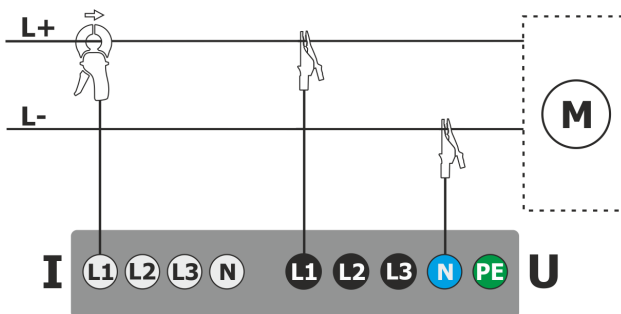

Fig. 45. Wiring diagram – DC system.
- DC – one-voltage DC system (Fig. 45)